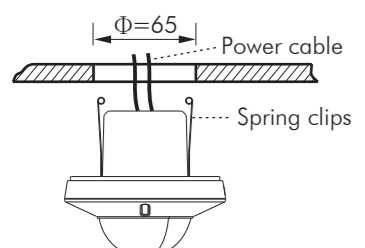

FIG.11
3.4.2.4 Close up two spring clips of detector and insert detector into the drilled hole on ceiling (See FIG.11).